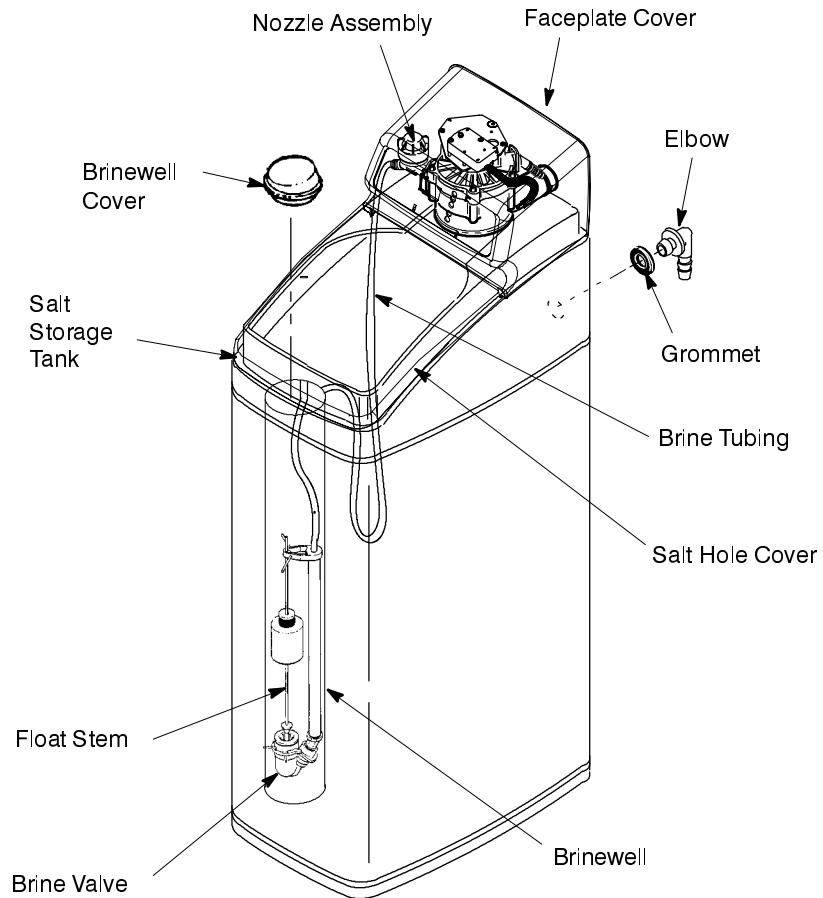

Figure 1
1. Water softeners are factory assembled. During installation, remove the Salt Hole Cover. Set aside to prevent damage. Check the brinewell to be sure it is secured and vertical (see Figure 1). Slide Faceplate Cover forward to expose back valve assembly.